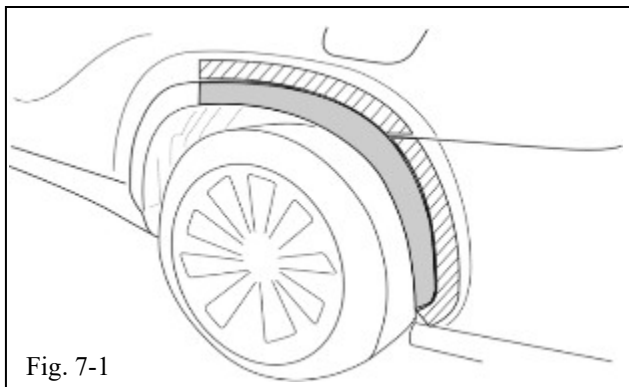

Fig. 7-1
- (a) Apply protective tape around the quarter panel wheel opening as shown in the illustration (Fig. 7-1).